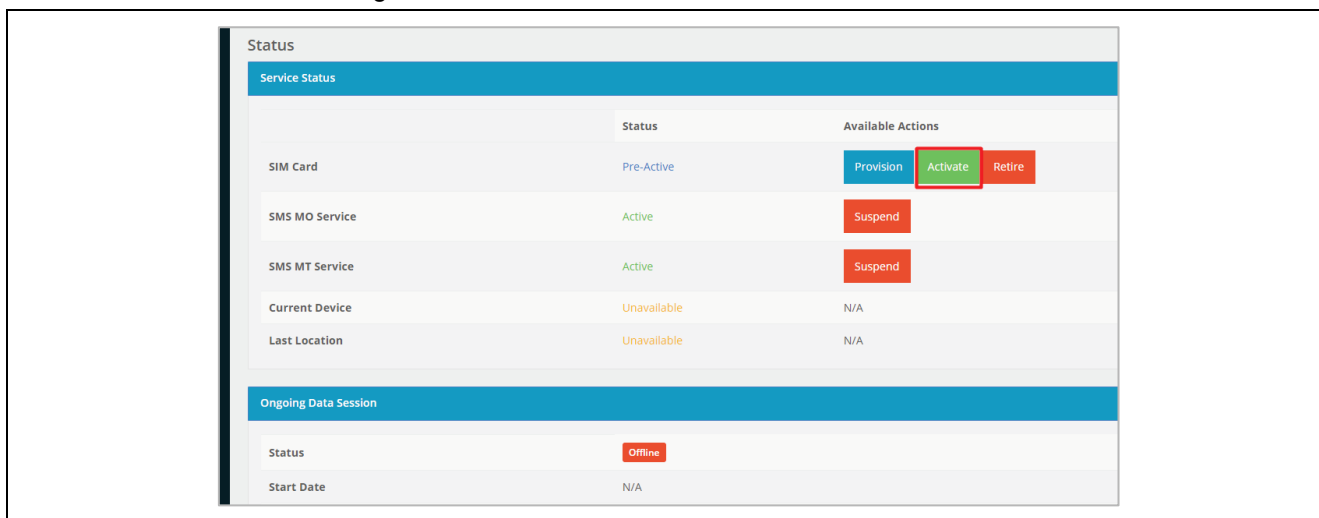

Figure 10. Activating the SIM card
8. You can open the page using the link <https://account.truphone.com/login> and select Home > SIM Cards > ICCID#xxx", and "Activate" the SIM from the status page as show in the Figure 10. After the activating the SIM, the status changes from Pre-Active to Active.